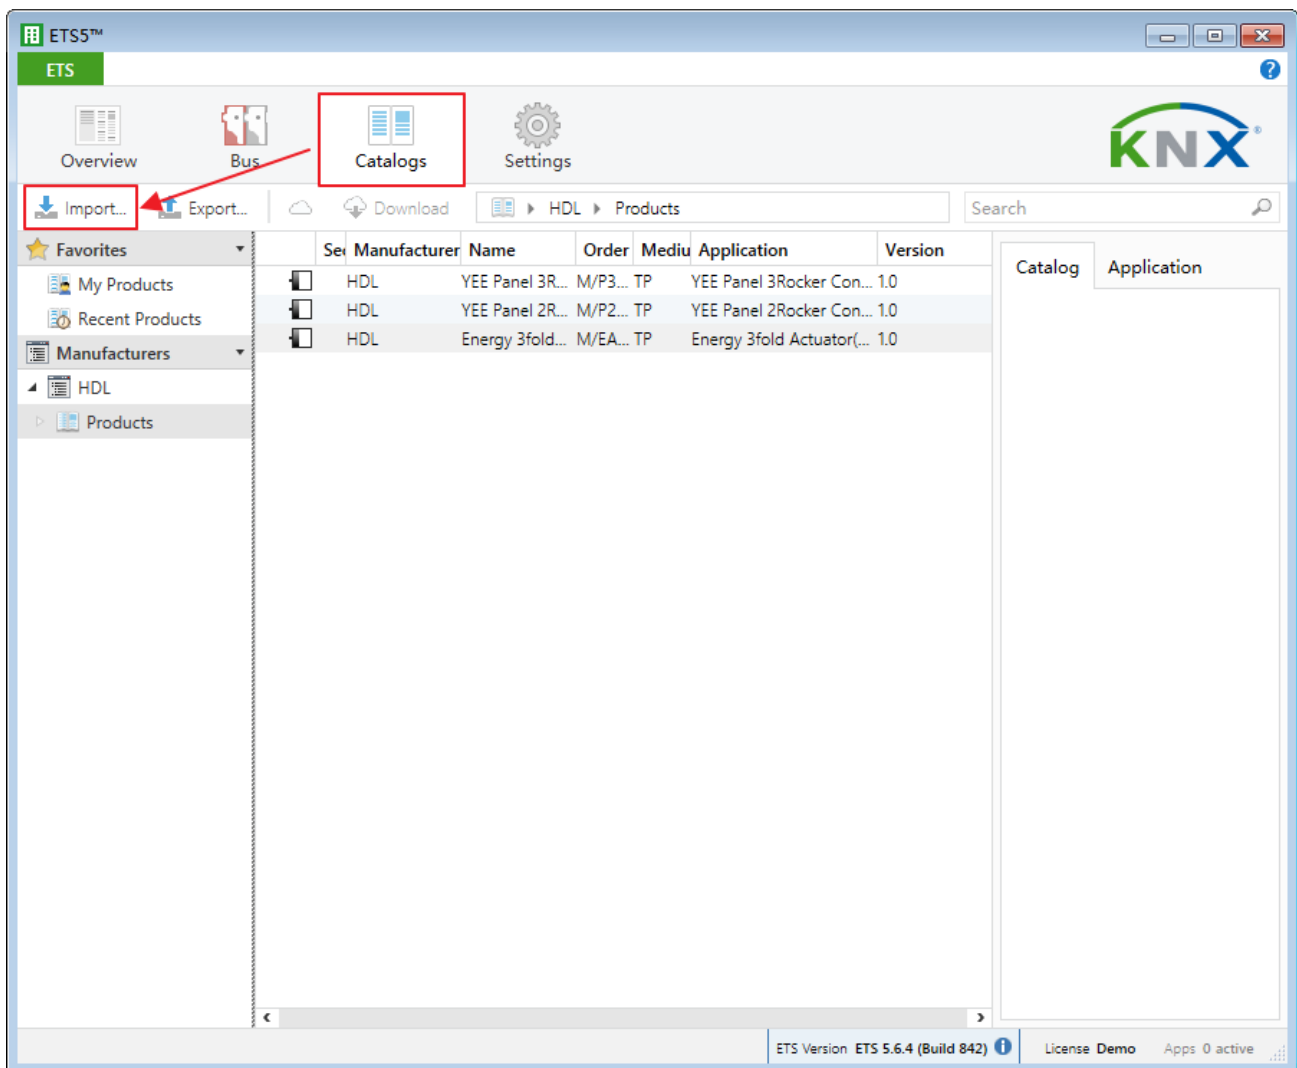

Figure 1-1 Import catalogs
1. **Import Catalogs:** click “Catalogs” → “Import...” in the main page of ETS5 and select local database files with the suffix of .knxprod, as shown in Figure 1-1.